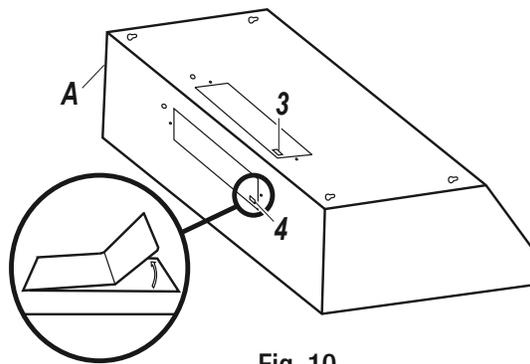

Fig. 10
- Choose the venting hole to remove for your installation type. Use the top hole (3) for a top venting installation and the back hole (4) for a back venting installation.
- Carefully remove the cover (3 or 4) of the appropriate venting hole using a flat head screwdriver or needle nose pliers (refer Fig. 10). Be careful not to leave any debris inside the range hood (A).